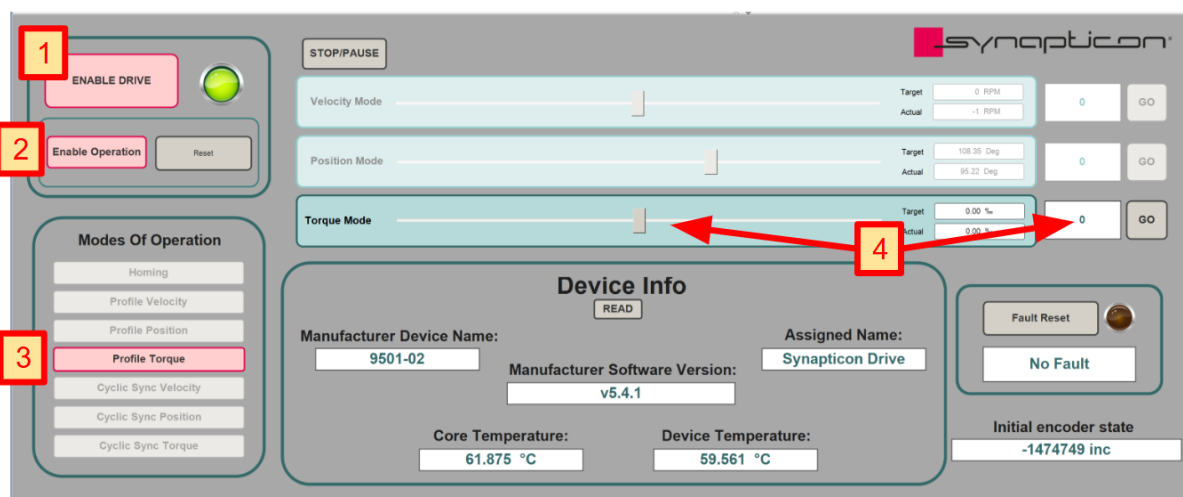

Figure 5.33 - Controlling the drive in profile torque mode
5. Press the “GO” button. For clarification, refer to Figure 5.33.